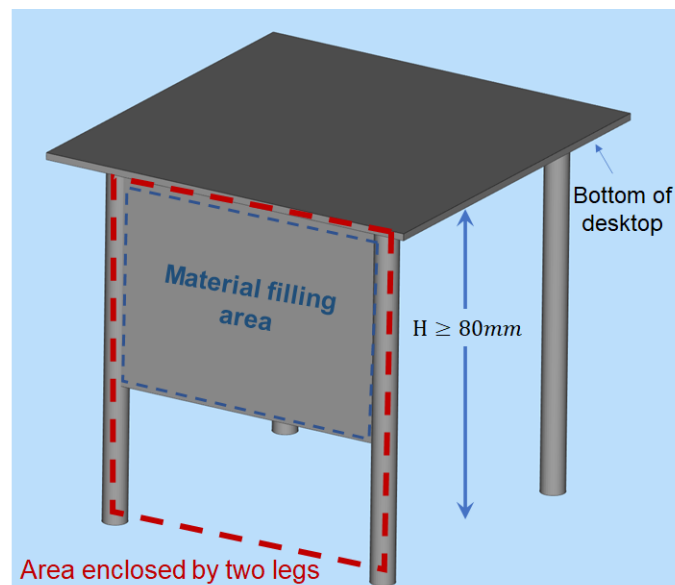

Fig. 2. Schematic diagram of Requirement a.
- a. Optimization domain is confined within the dimension of $100 \times 100 \times 100$ mm, with 1) the desktop off the ground at least 80 mm; 2) material filling ratio = $\frac{\text{material filling area}}{\text{area enclosed by two legs}} < 50\%$. See Fig. 2.